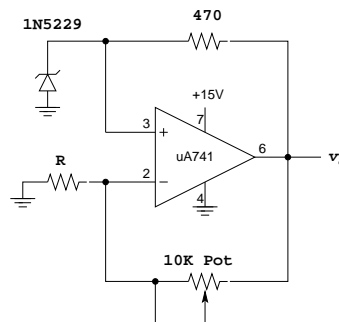

Figure 1.
2. The circuit in Figure 1 can be used as a precision voltage source (Horowitz and Hill, 2nd ed., Fig. 6.21). In this circuit, the source of voltage for the zener regulator is the precision output voltage. The precision voltage is obtained by amplifying the zener voltage. Note that the -V connection of the op amp is connected to ground instead of -15 V. (This is to prevent the bootstrap circuit from turning the diode on in the forward direction.)
2. Consider the precision voltage source in Figure 1.